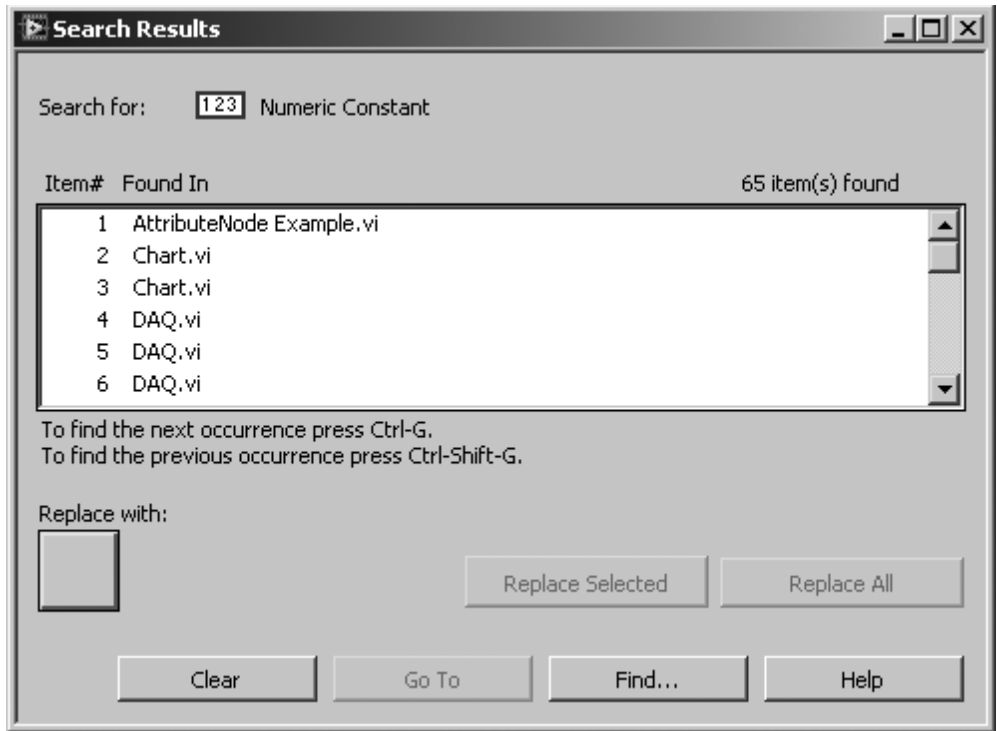

Figure 15.91
After you press the **Find** button, LabVIEW will display the Search Results dialog box, as shown in Figure 15.91.
*A very fast way to use the search tool is to pop up on a VI's icon and select **Find All Instances**. This will initiate a search and the **Search Results** window (shown in Figure 15.91) will appear with the list of found items. Note that you can access the **Find All Instances** option from the pop-up menu of subVIs, VIs shown in the **VI Hierarchy** window, and the VI icons located in the upper-right corner of VI front panels and block diagrams.*